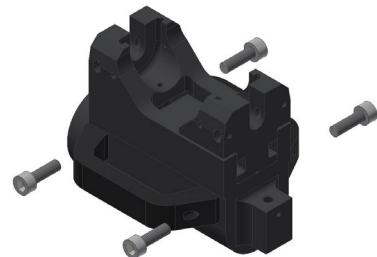

Figure 22
3. Install the retaining screws to secure the handle to the tool and repeat for handle 2 of 2 (Figure 22).